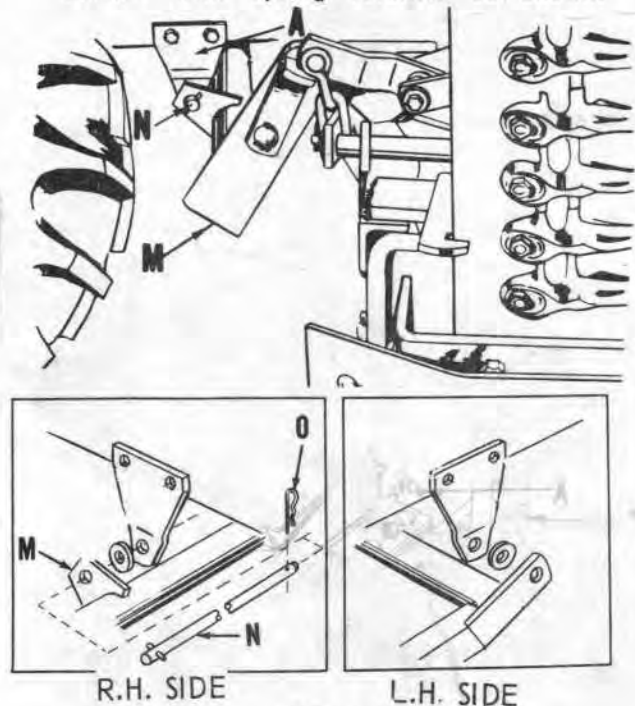

FIG. 3
4. Slide mower mounting frame beneath tractor as shown in Fig. 3. Line up hole in frame (M) with hole in rear hanger (A), refer to Fig.'s 3 and 4. Slide hanger shaft (N), with roll pin attached, through holes in frame (M) and rear hanger (A) from L.H. side. NOTE: Place a cushion washer (shipped in bag of parts) over shaft (N) and between frame (M) and rear hanger (A) at both R.H. and L.H. sides of tractor. Secure R.H. side with spring retainer (O), shipped in bag of parts.